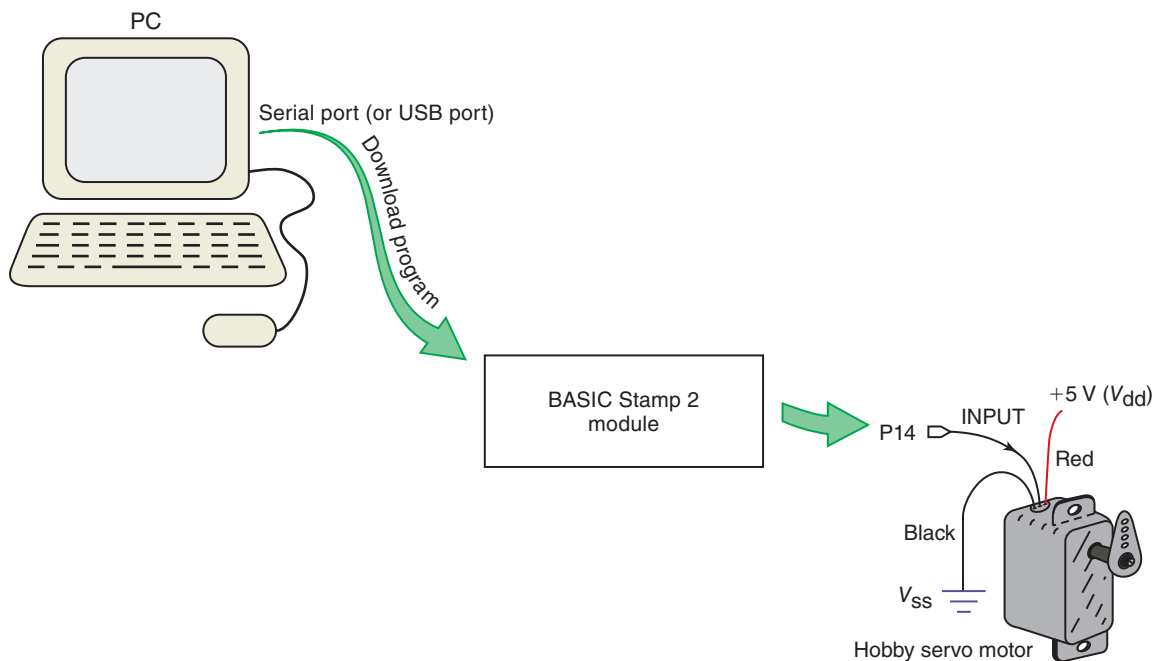

Fig. 5-45 Hobby servo motor connected to a BASIC Stamp 2 module for testing.
Consider the hobby servo motor connected to the BASIC Stamp 2 module in Fig. 5-45. This is a test circuit to rotate the servo (1) fully CCW, (2) fully CW, and (3) to finally center the output shaft.
1. Refer to Fig. 5-45. Wire the hobby servo motor to port P14 of the BASIC Stamp 2 module. Note the color coding (red = V_{dd} and black = V_{ss} or GND) of the power wires.
96. Refer to Figs. 5-45 and 5-46. What is the effect on the servo’s output shaft when the FOR-NEXT loop in lines 12–15 is totally executed (75 times through the loop)?